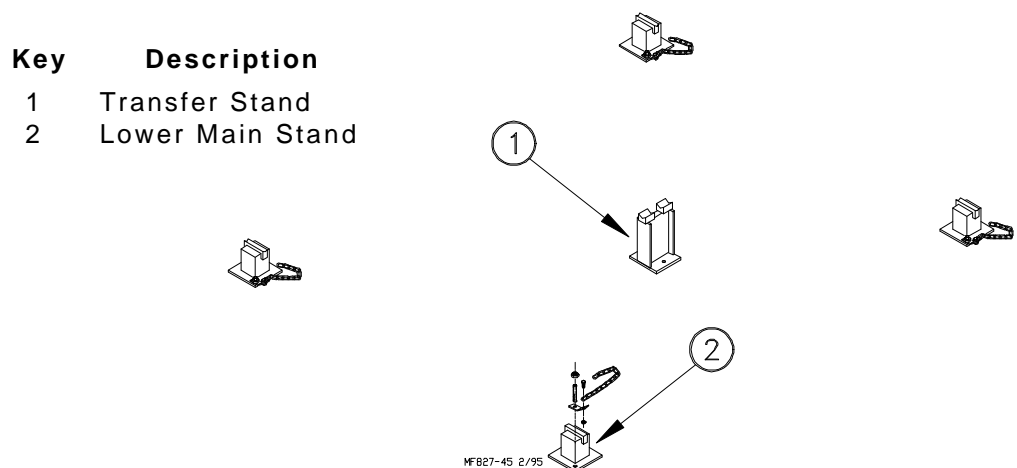

Figure 49. Scale Stand Locations
1. Place the four Lower Main Stands and the Transverse Stand over the holes drilled in the foundation. See Figure 49 for approximate placement. Install the Anchor Bolts and Safety Chain Assemblies but do not tighten the anchors until the scale levers are in position.